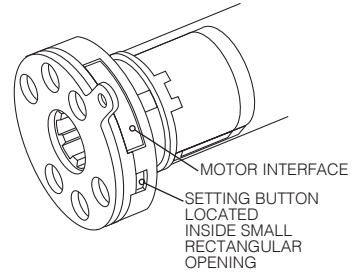

Figure 3: Wand Motor Head
- Use a pencil eraser to push firmly on the wand plug and ensure that it is fully seated in the motor interface. **[Figure 3]**
Use an opened paperclip to press the setting button on the motor crown **[Figure 3]**
1. **Press & hold the Setting Button [Figure 3]** on the motor crown until the shade jogs 3 times. This removes all programming. **NOTE:** There is a longer pause between the 2nd and 3rd jogs.
If for some reason the shade direction is reversed, press & hold the Setting Button **[Figure 3]** on the motor crown until the shade jogs 2 times.